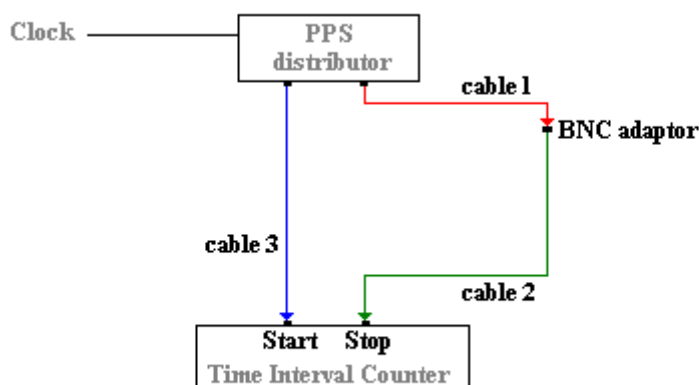

Figure 1. Determination of the tare of the measurement setup.
- This first measurement allows determining the tare of the measurement setup, as shown in Figure 1.